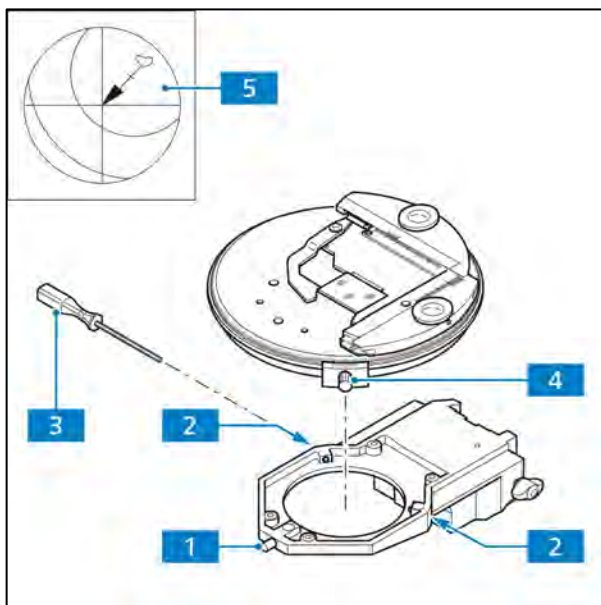

Fig. 3-17 Centering the Pol rotary stage
All stages are factory-pre-centered, i.e. when rotating the stage the specimen feature set to the center of the field of view will remain in the center. If the specimen feature moves off the center of the field of view (Fig. 3-17/5) while you are rotating the stage, the stage should be re-centered as follows.
- Loosen the stage click-stop (Fig. 3-17/4) or clamp (on the Pol rotary stage with clamping device) and unscrew the stage carrier cap (Fig. 3-17/1).
- Rotate the stage to determine the position of maximum offset of the specimen feature (Fig. 3-17/5, origin of arrow) from the center of the eyepiece reticle.
- Turn the two centering screws on the stage carrier (Fig. 3-17/2) with one Allen wrench (AF 1.5) (Fig. 3-17/3) each to move the specimen feature by half the arrow length towards the reticle center. Rotate the stage again to check if the specimen feature moves off. Repeat the centering procedure, if necessary.
- After centering, retighten the screw cap (Fig. 3-17/1).